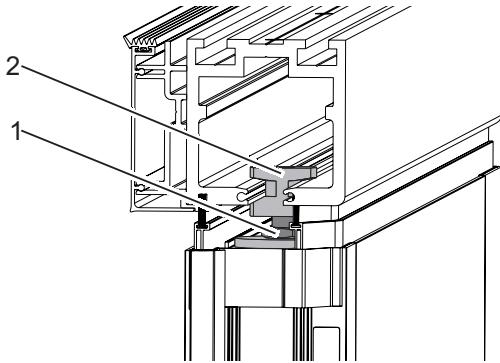

Fig. 16: Fastening the fixed panel holder
6. Slightly turn the locking screws (Fig. 16/1) on the fixed panel holders (Fig. 16/2) until the fixed panel holder is fixed.